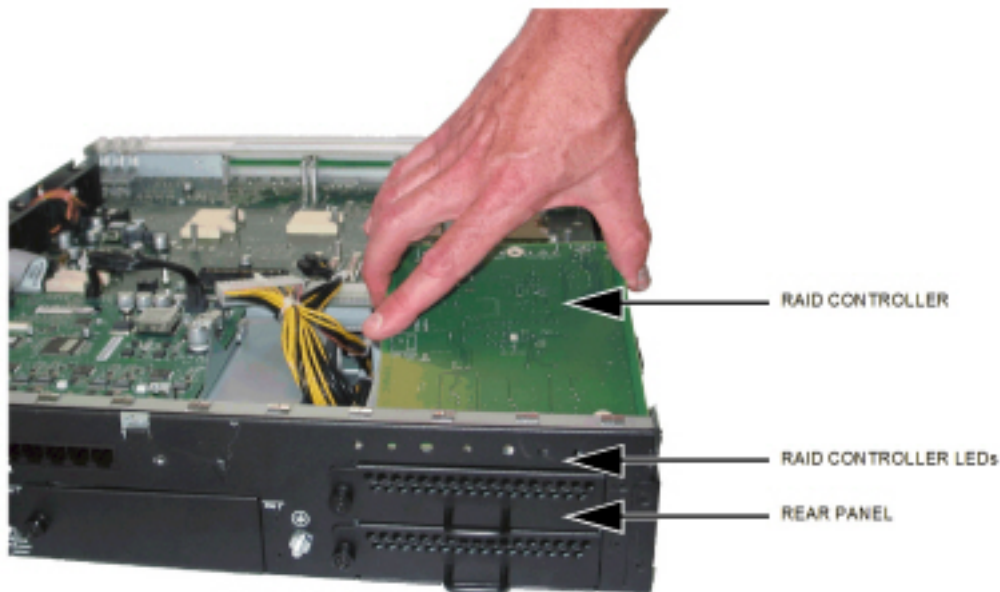

Figure 7.23: Disconnecting the AMB Power Connector
5. Position the new RAID controller board by carefully inserting the LED indicators into the holes in the controller rear panel (see Figure 7.23).